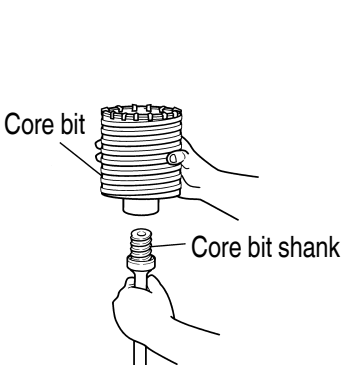

Fig. 33
- (1) Mount the core bit to the core bit shank. (**Fig. 33**)